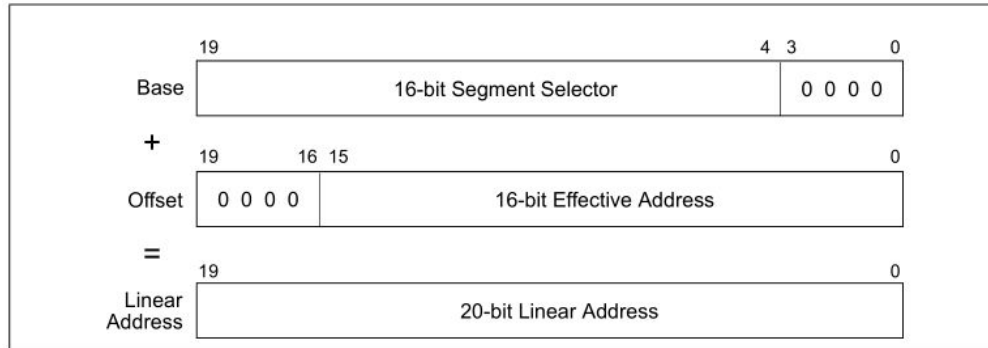

Figure 20-1. Real-Address Mode Address Translation
- As shown in Figure 20-1 in the Intel SW Developers guide